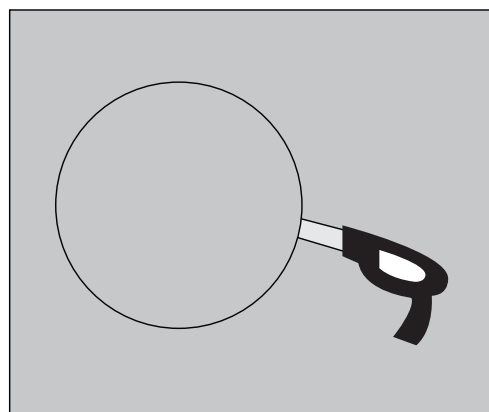

Figure 2
4. Carefully cut a hole with the appropriate cutting tool along the pencil trace as follows: Start the hole by drilling a hole inside of the pencil line (place drill bit just inside the line). Use this hole to insert the cutting tool and begin cutting — be careful not to cut outside the template line! (Figure 2).